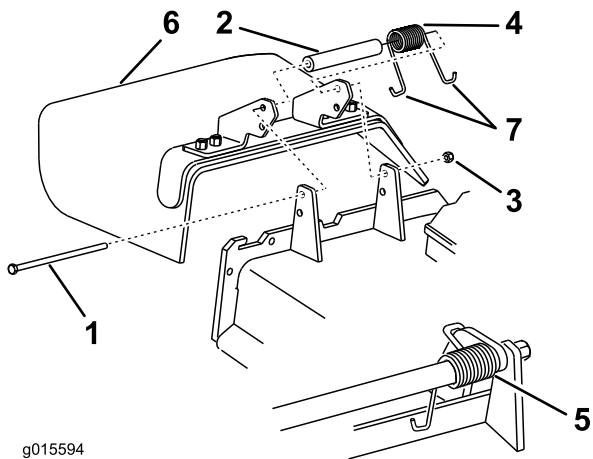

Figure 72
1. Remove the locknut, bolt, spring and spacer holding the deflector to the pivot brackets (Figure 72). Remove the damaged or worn grass deflector.
Note: Make sure one **J** end of the spring is installed behind the deck edge before installing the bolt as shown in Figure 72.
- Install the bolt and nut. Place one **J** hook end of the spring around the grass deflector (Figure 72).